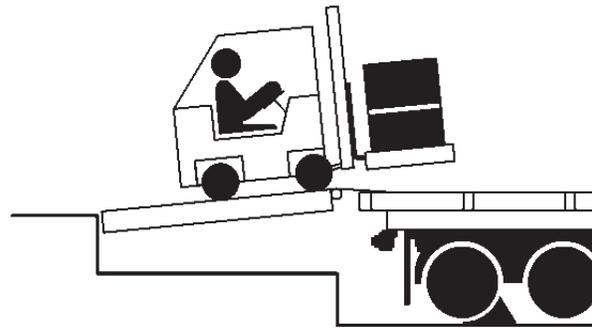

Figure 20
- c. Make sure that the lip is fully extended and supported on the transport vehicle along the entire width of the platform, with at least 4 in. (102 mm) of lip contacting the transport vehicle bed. See Figure 20.